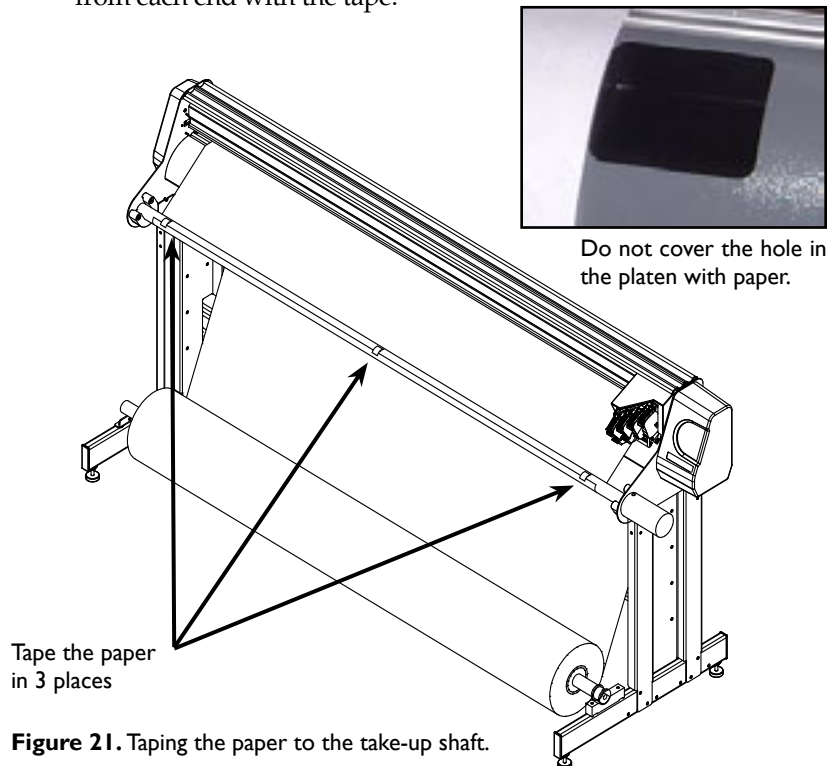

Figure 21. Taping the paper to the take-up shaft.
2. Place 3 short pieces of masking tape within easy reach on the top cover. (See *Figure 21*.)